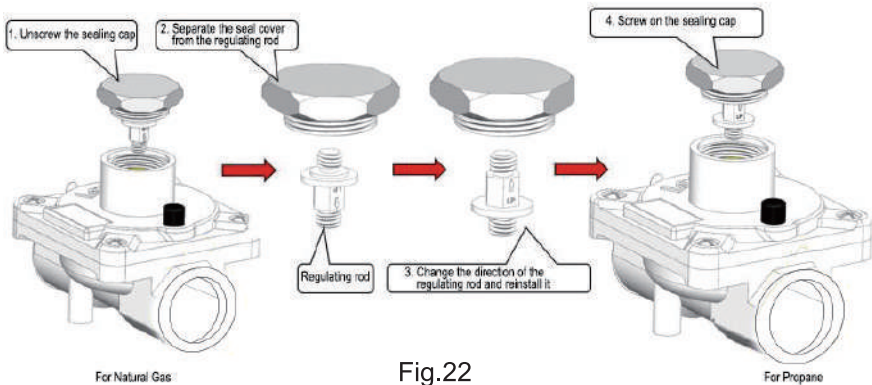

Fig.22
- Test the outlet pressure, the pressure is required to be 10 ± 1 in w.c. If it cannot meet the scope of the requirements, need to unscrew the pressure regulator nut as Fig.22, rotate slightly to adjust the white plastic parts inside the pressure regulator.
- Similarly, when using in NG status, turn the marked NG arrow upwards and tighten it to the screw cap(Fig.22). Repeat the above operation. The outlet pressure requires to be 4 ± 1 in w.c.